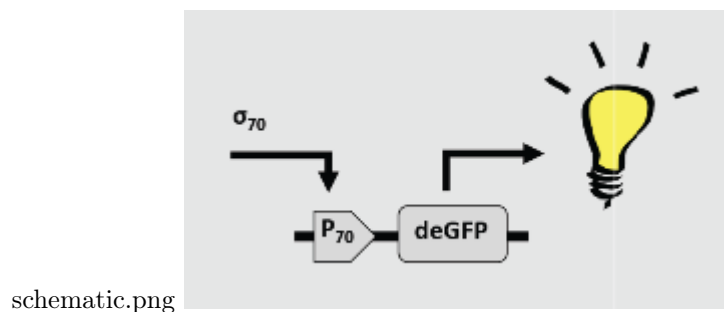

Figure 3.1: Schematic of the gene expression circuit'
This example shows constitutive expression of the destabilized enhanced Green Fluorescent Protein (deGFP) from a gene on a plasmid. It shows one of the simplest circuits that can be modelled with the modelling toolbox, and in doing so, illustrates its basic features. These include displaying the evolution of the expressed protein (deGFP) levels, resource usage (Amino Acids (AA) and Nucleotide Pairs (NTPs)), the evolution of the DNA and mRNA concentrations. Figure 3.1 shows a schematic of this circuit.